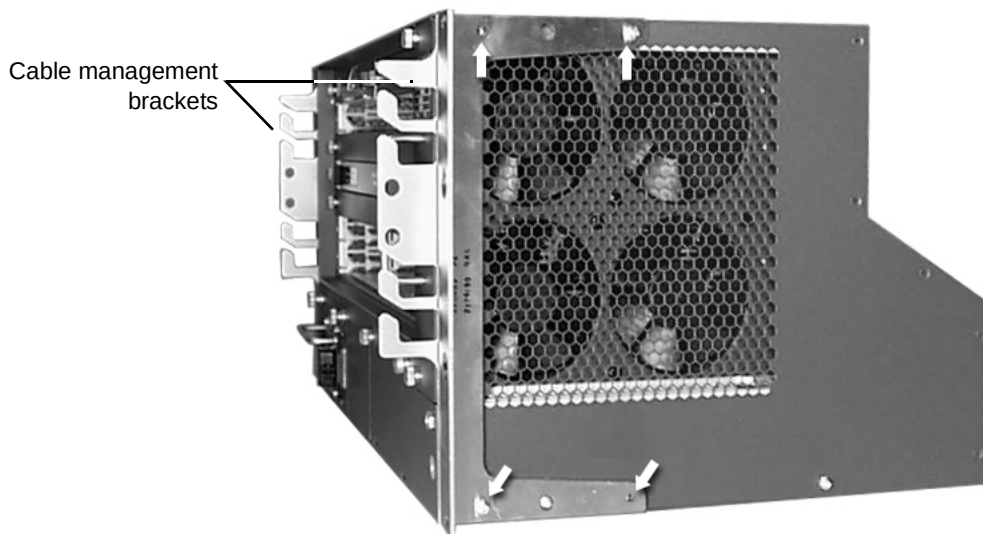

Figure 5 Aligning the Cable Management Brackets
3. Position the cable management brackets (if desired) on the chassis as shown in Figure 5 on page 36, but do not use the screws to attach them yet.